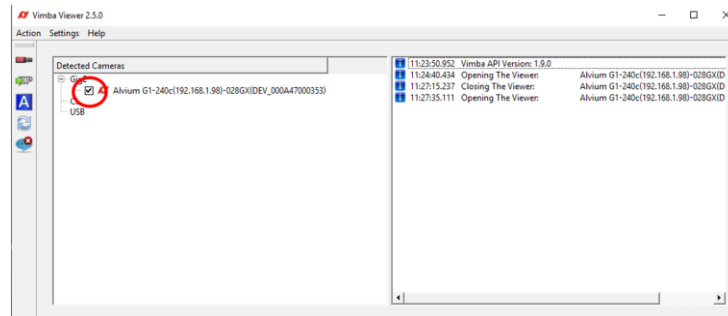

Figure 1-5
- Open the camera menu by selecting the respective camera (see Figure 1-5).